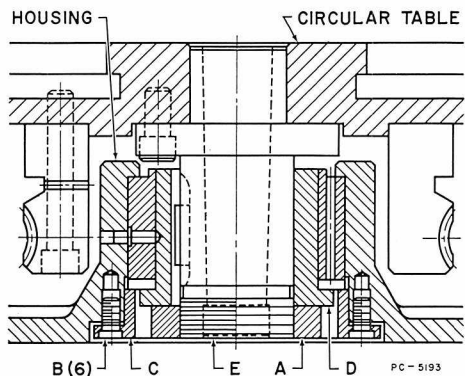

Figure 84A
1. Loosen locking shoe set screw in locking nut "A". (Figure 84A).
4. Remove six clamping screws "B" (Figure 84A).
6. Turn the eccentric bushing "D" (Figure 84A) until there is no play between the worm and worm-wheel. (Stud "E" and the worm-wheel are bolted to circular table and move as a unit in a straight line when the eccentric bushing "D" is turned.)